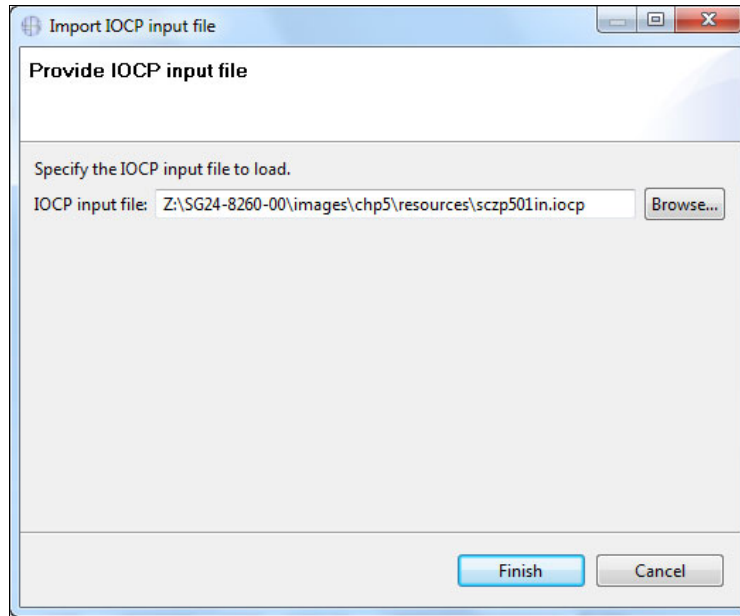

Figure 8-58 CMT - Specifying the IOCP file for import
2. Select the IOCP file on your workstation to import into the CHPID Mapping Tool and click **Finish** (Figure 8-58).